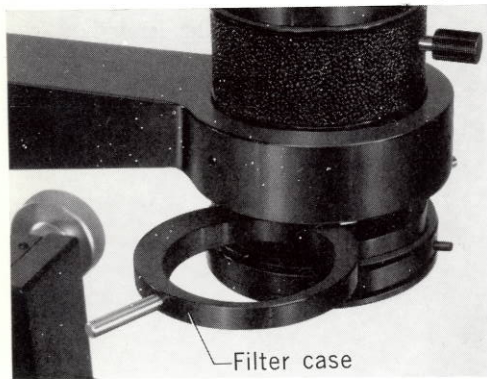

Fig. 18
- When using the objective of 4X or lower magnification, or observing the specimen in a large culture bottle or dish, remove the condenser lens. Instead, place on the filter case in the illuminator a mat glass filter supplied with the instrument in order to gain a uniform illumination over a wide viewfield. (Fig. 18)